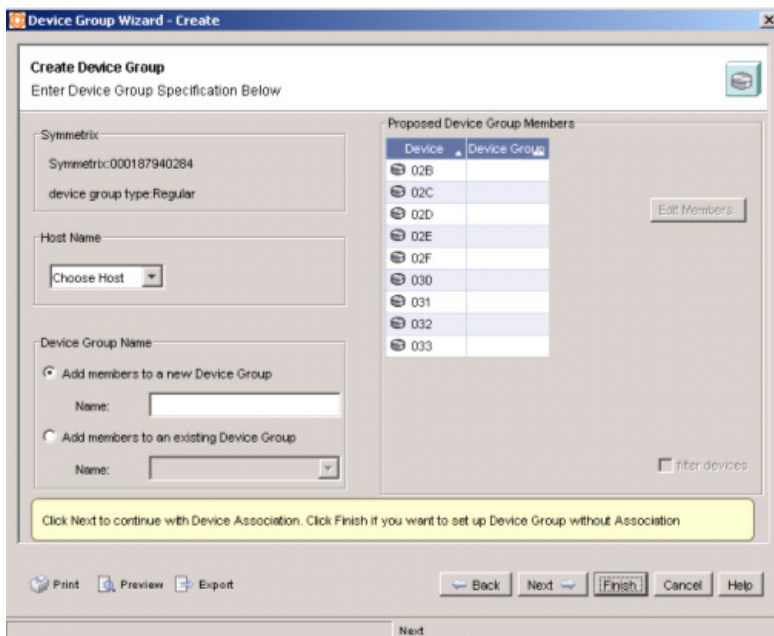

Figure 11-3 Create Device Group Dialog Box
3. The Device Group Wizard dialog box reflects your earlier choices for the Symmetrix containing the devices and their device type. If you selected multiple device types, it asks you to specify the **Device group type**. Once you select the device group type, click **Next** to proceed to the Create Device Group dialog box (Figure 11-3).